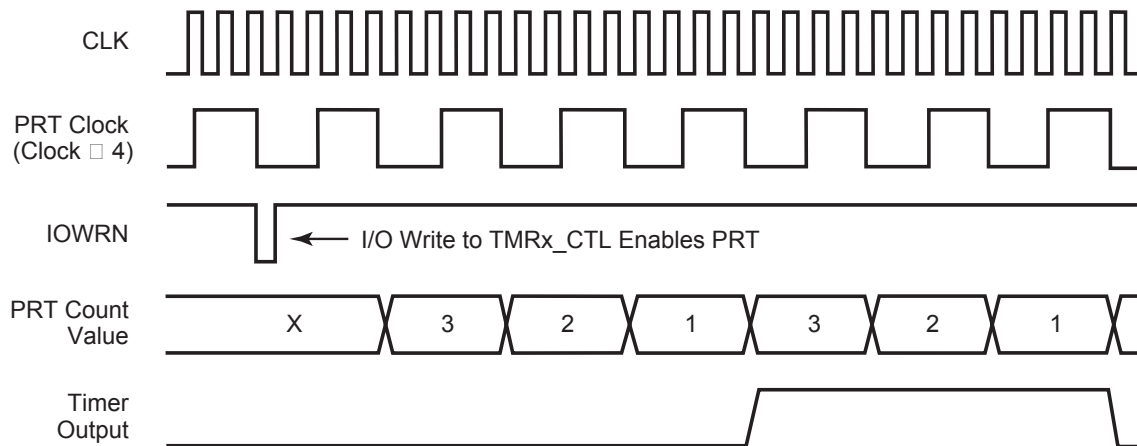

Figure 21. PRT Timer Output Operation Example
Two of the Programmable Reload Timers (Timers 4 and 5) can be directed to GPIO Port B output pins (PB4 and PB5, respectively). To enable the Timer Out feature, the GPIO port pin must be configured for alternate functions. After reset, the Timer Output feature is disabled by default. The GPIO output pin toggles each time the PRT reaches its end-of-count value. In CONTINUOUS mode operation, the disabling of the Timer Output feature results in a Timer Output signal period that is twice the PRT time-out period. Examples of the Timer Output operation are illustrated in Figure 21 and Table 31. In these examples, the GPIO output is assumed to be Low (0) when the Timer Output function is enabled.